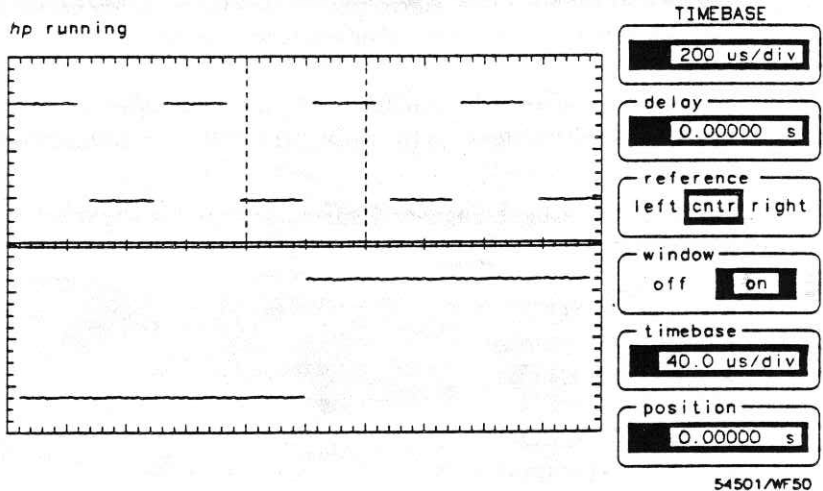

Figure 4-3. Input Signal with Window Turned On
- Set the window timebase to $40\ \mu\text{s}/\text{div}$ (see Figure 4-3).